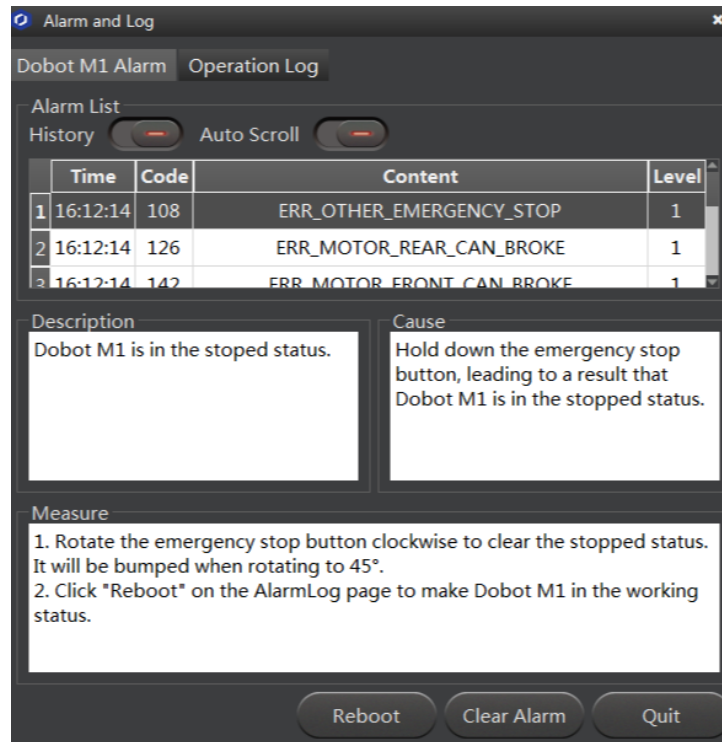

Figure 5.22 Alarm tab
Step 5 Click **Reboot** on the **Dobot M1 Alarm** tab of **Alarm and Log** page to Restart Dobot M1, as shown in Figure 5.22.